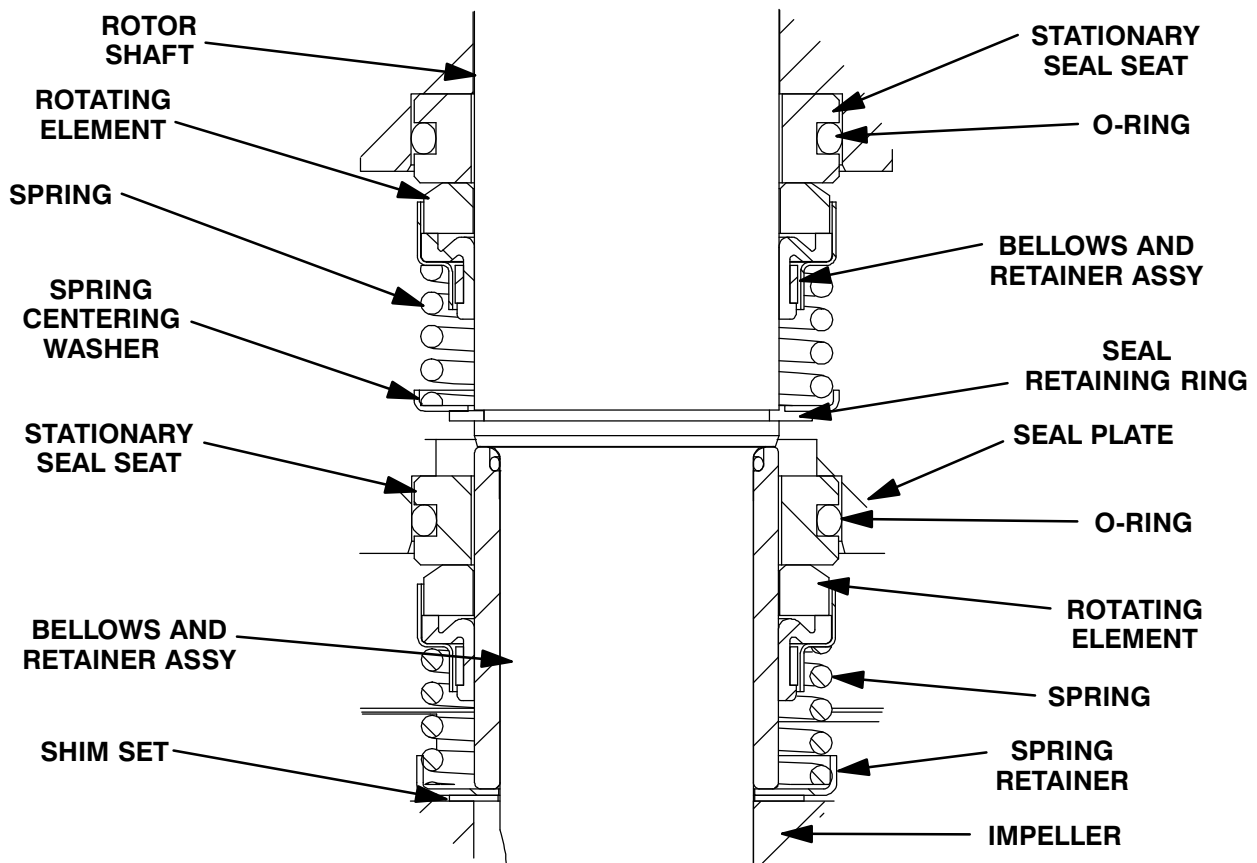

Figure E-3. Upper And Lower Seal Assemblies
Install the shaft seals as illustrated in Figure E-3.
Slide the seal spring over the shaft and bellows retainer and install the spring centering washer. Install the seal retaining ring (10). See Figure E-3 for the proper order of seal assembly.
Install the seal spring over the bellows retainer and install the spring retainer (20). See Figure E-3 for proper order of seal assembly.